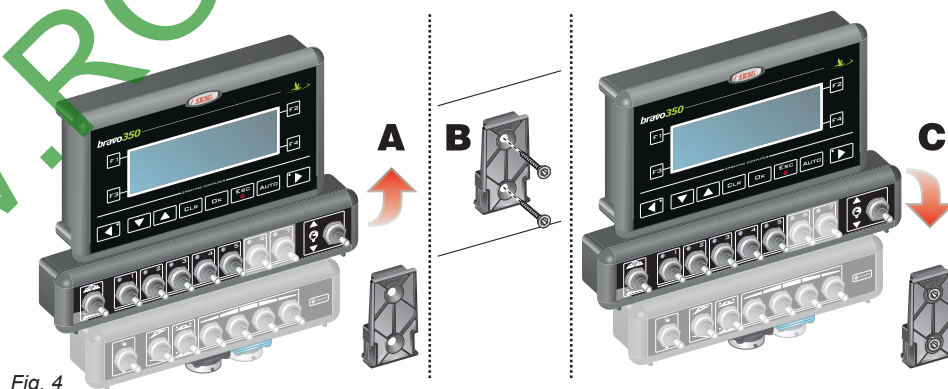

Fig. 4
The monitor must be mounted after having fixed the bracket at the desired location (the previous paragraph shows the bracket drilling template). The bracket must be slid out of the monitor seat (A, Fig. 4) and fixed using the supplied screws (B). **Make sure the bracket is securely mounted, fit the monitor on it, and push it until it locks in place (C).**